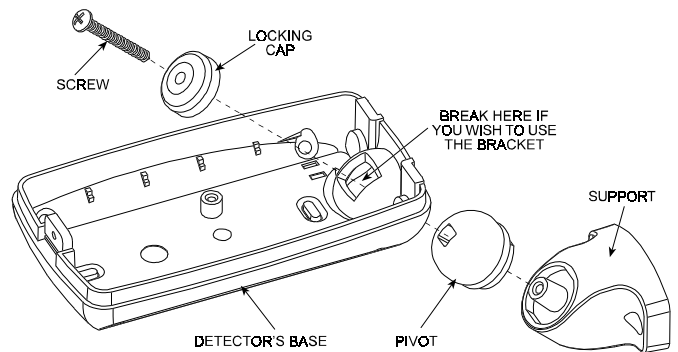

Figure 6. Attaching the Bracket
- Punch out the large knockout in the round bulge at the top part of the base (see Figure 6)
- Assemble the bracket as shown in Figure 6.